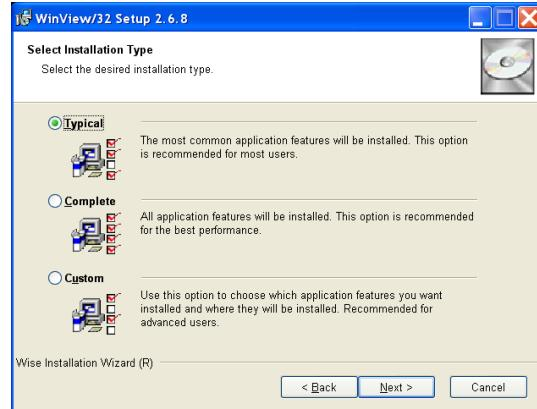

Figure 6. WinView Installation:
1. On the **Select Installation Type** dialog (see Figure 6), click on **Typical** radio button to install the required drivers and the most commonly installed program files. Select the **Custom** radio button if you would like to choose among the available program files or do not want to install the drivers. **Complete** installs all of the application features.